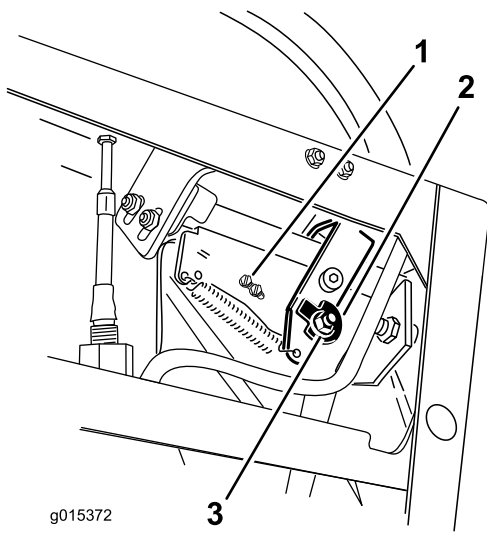
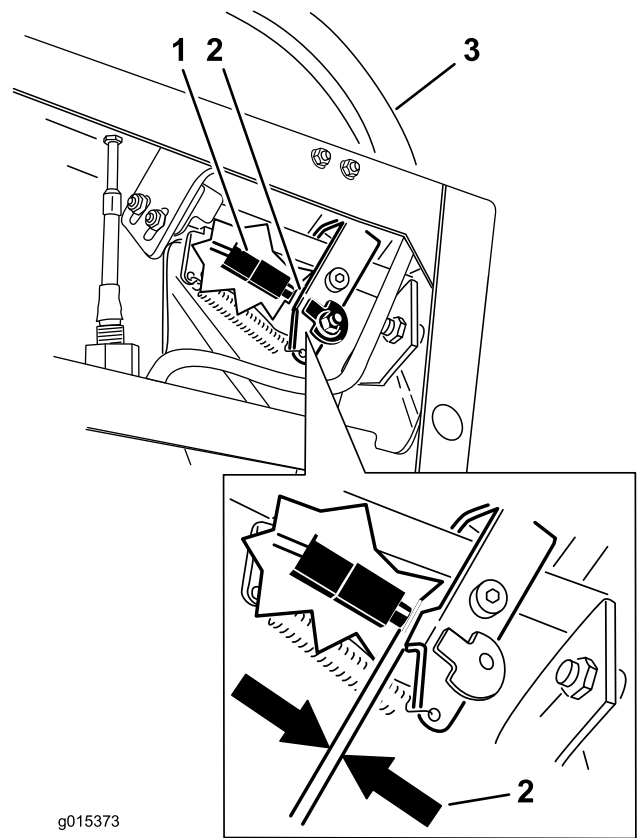

Figure 72
Figure 73
7. Loosen the nut and bolt holding the cam (Figure 72).
10. Check the gap between the control lever and switch as shown in Figure 73. The gap needs to be an 1/8 inch (3mm) with the right motion control lever in the neutral, unlocked position.
11. If needed, loosen the screws holding the switch and adjust the switch (Figure 72 and Figure 73).